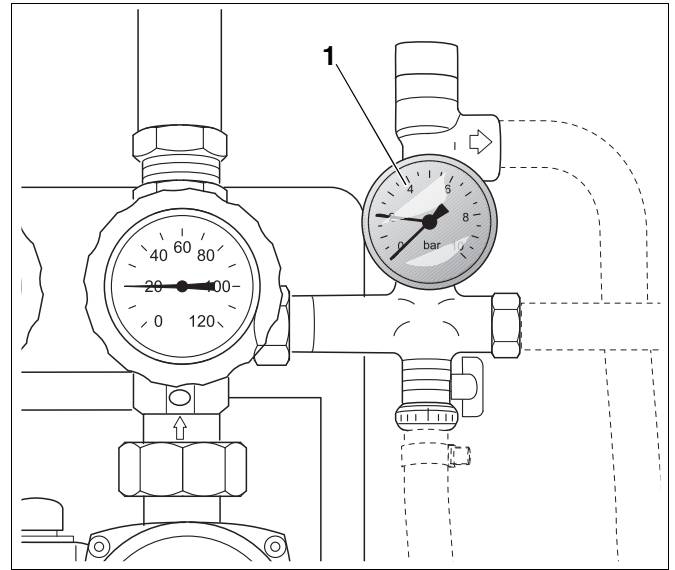

Fig. 16 Safety assembly with pressure gauge
- ▶ During the changeovers, check the pressure gauge indication (black needle, Fig. 16, **Item 1**) at the safety assembly.
The solar heating system contains air and must be vented more thoroughly, if the black needle of the pressure gauge (Fig. 16, **Item 1**) indicates pressure fluctuations when the circulation pump is switched ON and off.